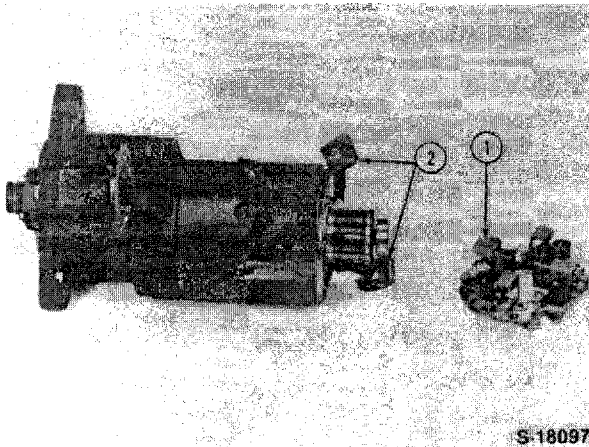

Figure 38
4. Remove the two positive brushes from their holders and remove the brush holder, Figure 38.